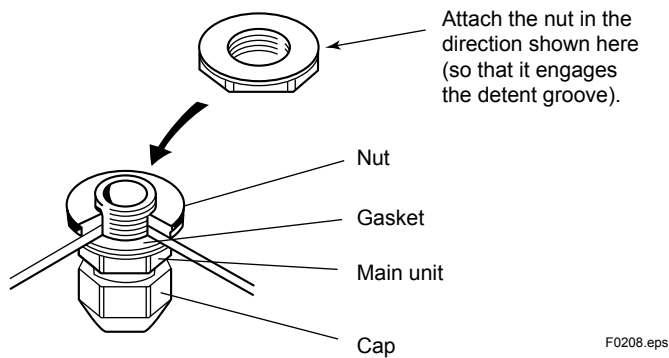

Figure 2.8 Attaching the Cable Gland
- (1) Loosen the two screws in the terminal box front panel and remove the cover.
- (2) Install the cable gland (JIS A8 or the equivalent) in the sensor cable inlet port. Remove the nut from the cable gland, and put it in the designated place. Then screw on the main unit as shown in Figure 2.8.